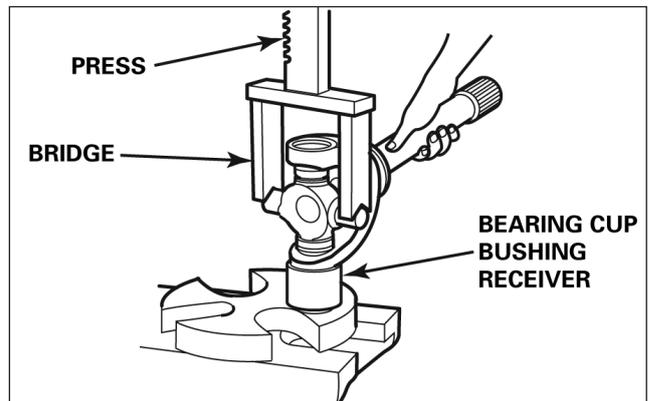

Fig. 4.13
6. **Alternative Method:** It's possible to use a press with a bridge and bearing cup bushing receiver as shown. Press DOWN until the first round bushing is loose. Fig. 4.13